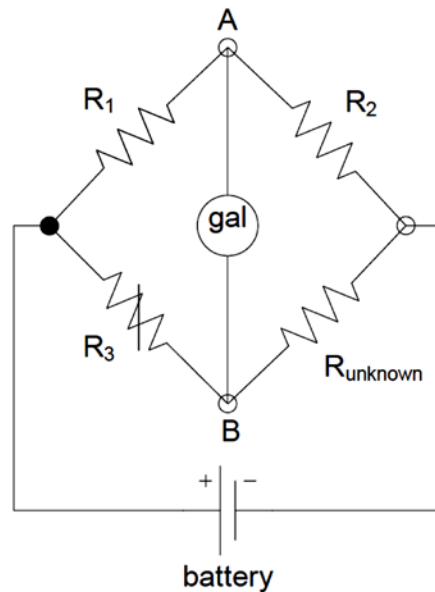

Figure 6-3 Wheatstone bridge circuit
**Wheatstone Bridge Resistance Measurements:** The Wheatstone bridge circuit of Figure 6-3 is used to obtain accurate resistance measurements for a large range of resistance values. A battery provides the source of current flow, while a galvanometer measures very small currents. The basic principle of operation is that when the bridge is “balanced”,  $R_1/R_2 = R_3/R_{\text{unknown}}$ . In this condition, the voltages at nodes A and B are equal, and the galvanometer current is zero. The general procedure is, therefore, to select appropriate values for  $R_1$  and  $R_2$ , and then adjust variable resistor  $R_3$  to obtain an indication of zero on the galvanometer. Unknown resistance can then be calculated from the equation:
3. Refer to the Wheatstone bridge diagram of Figure 6-3. If the galvanometer indicates zero when  $R_1=110\Omega$ ,  $R_2=10\Omega$ , and  $R_3$  is set at  $2.97k\Omega$ , what is the value of  $R_{unknown}$ ?
4. Refer to the Wheatstone bridge diagram of Figure 6-3. If  $R_1=1\Omega$ ,  $R_2=111\Omega$ ,  $R_{unknown}= 1\Omega$ ,  $R_3$  is set at  $1k\Omega$ , and the battery is 9V:
7. Connect the Wheatstone bridge circuit as shown in Figure 6-3 using the WINSCO GS-470 Instructions. (A DC power supply set at  $\sim 10V$  may be substituted for the 9V Battery.)